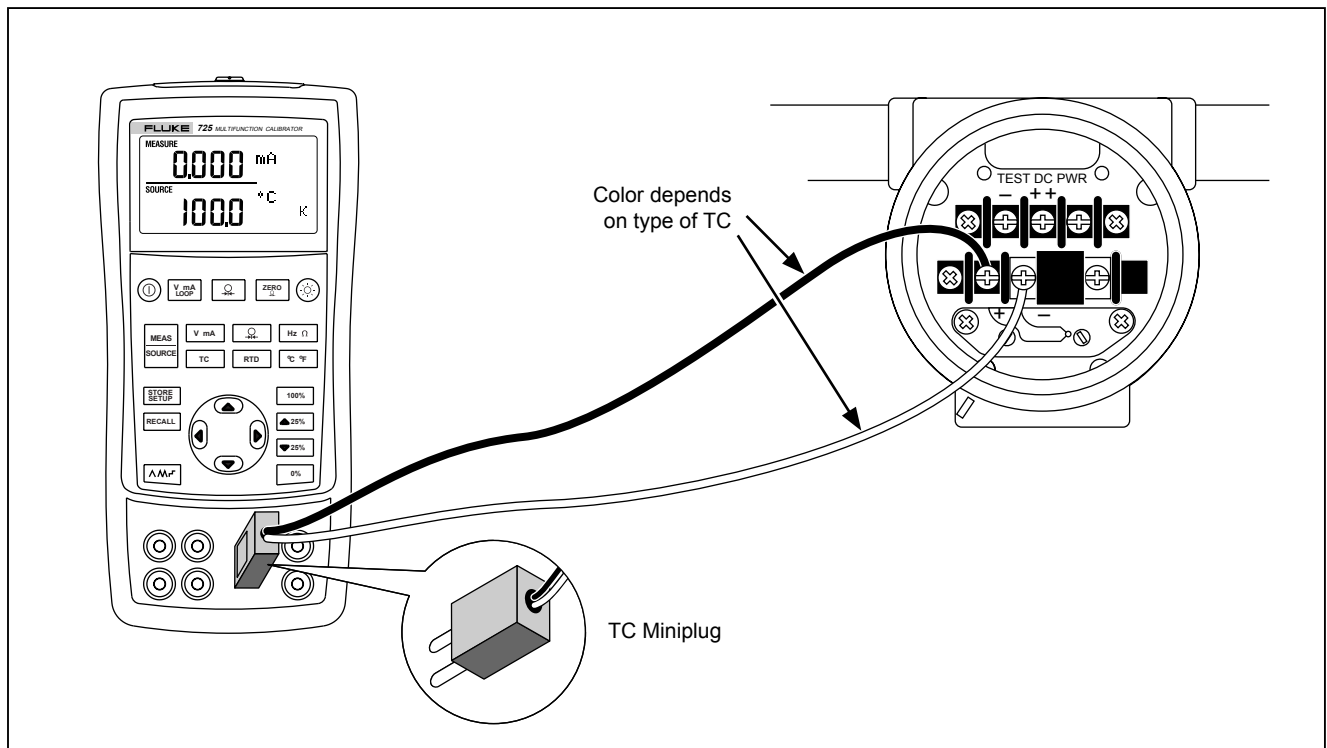

Figure 16. Connections for Simulating a Thermocouple
Connect the calibrator TC input/output to the instrument under test with thermocouple wire and the appropriate thermocouple mini-connector (polarized thermocouple plug with flat, in-line blades spaced 7.9 mm [0.312 in] center to center). *One pin is wider than the other. Do not try to force a miniplug in the wrong polarization.* Figure 16 shows this connection. Proceed as follows to simulate a thermocouple:
1. Attach the thermocouple leads to the appropriate TC miniplug, then to the TC input/output as shown in Figure 16.